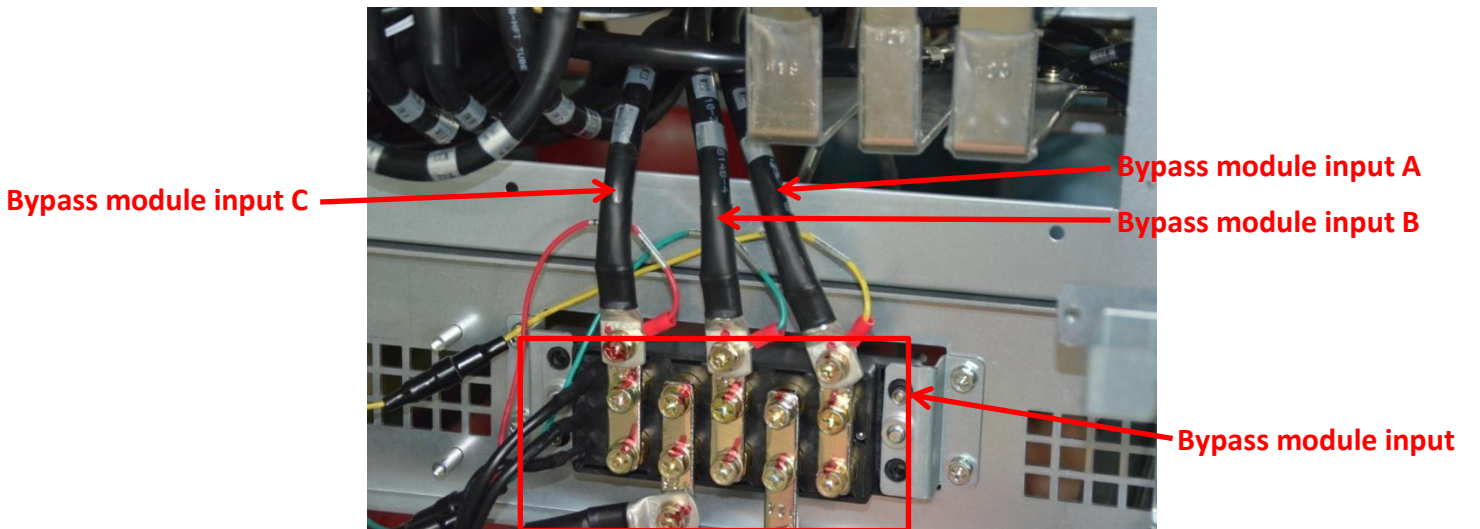

Figure 4 Bypass module input cables
3. Remove and **leave** the old bypass module input black cables: W21 (Phase A), W21 (Phase B) and W23 (Phase C), and install the new bypass module input cables (Shorter than the old one) between bypass input copper bar and bypass module input, as is shown in figure 4 and 5.